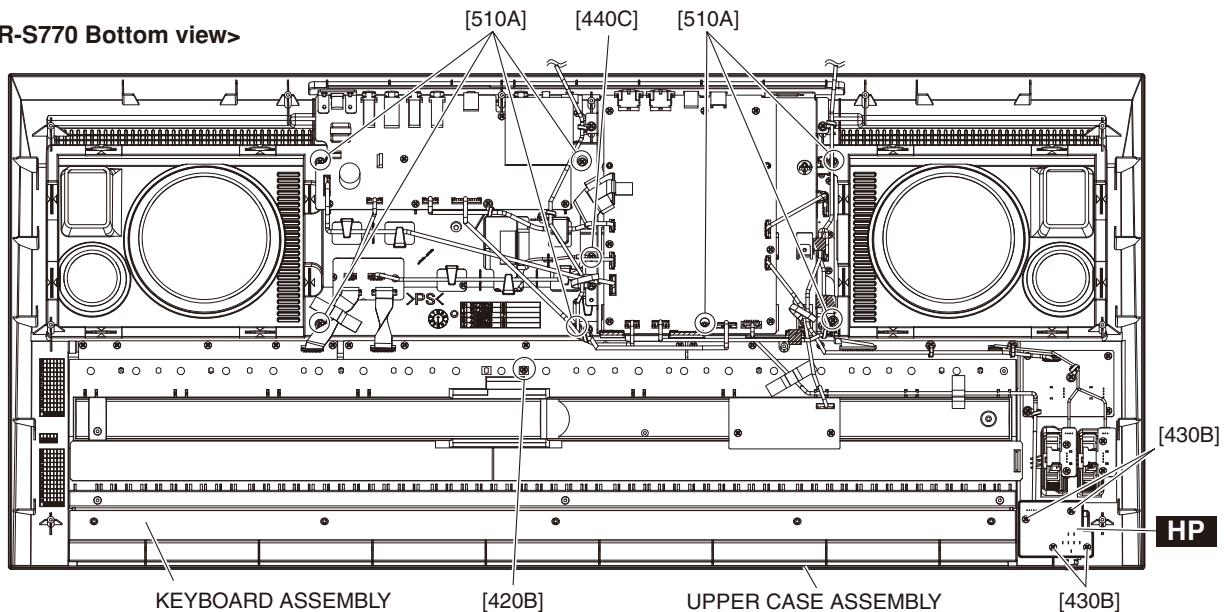

Fig. 4
- 5-2. Remove the seven (7) screws marked [510A] and the screw marked [440C]. (Fig. 4)
- 9-2. Remove the four (4) screws marked [430B]. The HP circuit board can then be removed. (Fig. 4)
- 10-2. Remove the screw marked [420B]. The keyboard assembly can then be removed. (Fig. 4)